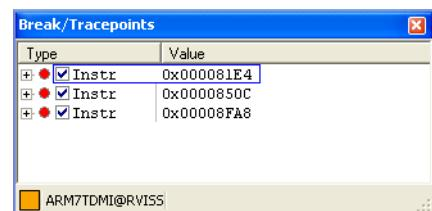

Figure 11-13 Breakpoint in the Break/Tracepoints view
1. Select **Break/Tracepoints** from the **View** menu to display the Break/Tracepoints view, if it is not already visible. Figure 11-13 shows an example: